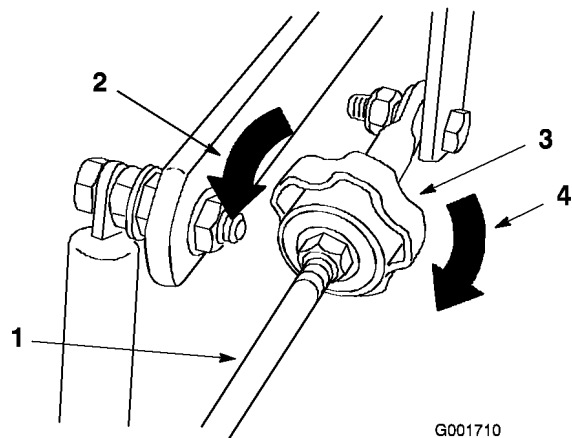

Figure 75
2. Adjust the pump rod length by rotating the knob, in the appropriate direction, until the wheel is still or slightly creeping in reverse (Figure 75).